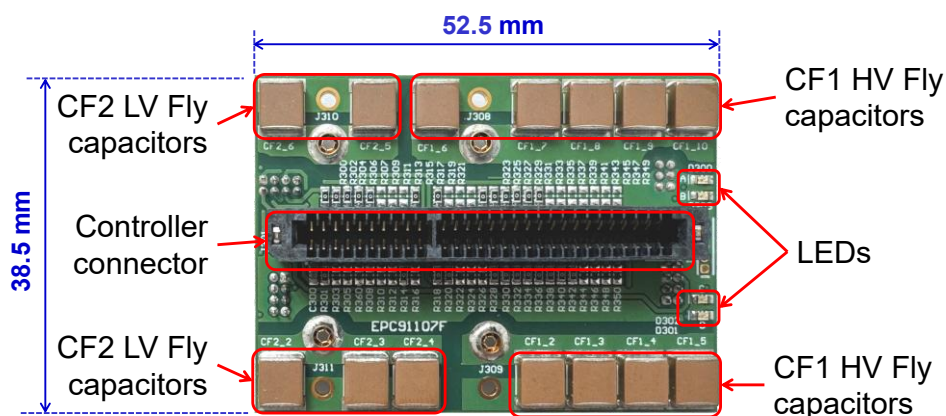

Figure 8: Top view of the EPC91107KIT Flying capacitor and controller interface board EPC9110F showing the main circuit elements.
- 3) EPC91107F - Flying capacitor and controller interface board assembly that includes the bulk of the flying capacitors and the connection interface for the controller card as shown in Figures 8 and 9,